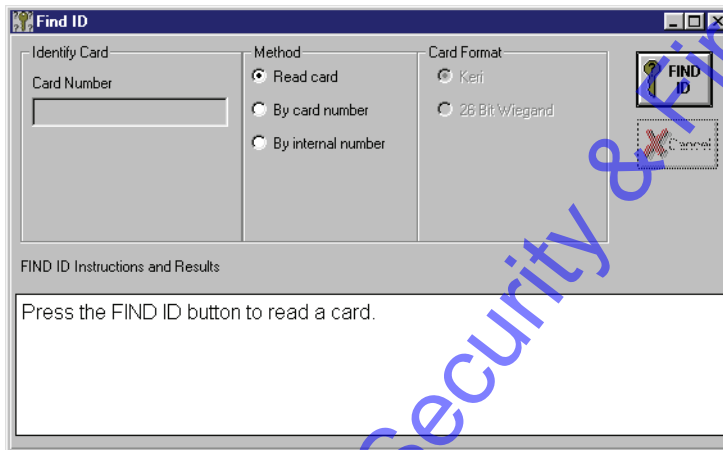

Figure 4-51: Find ID Window
1. To identify an unknown user, click on the Reports ⇒ Find ID Card pull-down menu. The Find ID window appears (see Figure 4-51).